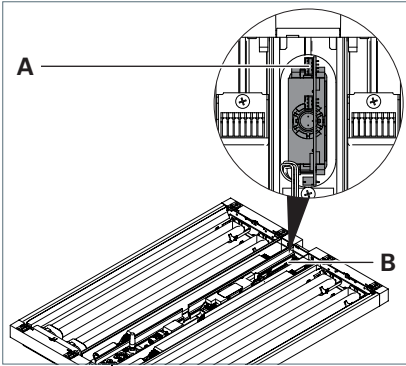

Fig. 9: Interface for luminaires with PIR sensor
- For luminaires with **PIR sensor**: Connect the other end of the connecting line to the interface **A** "R/TxD0" on the PIR sensor **B** in the luminaire head, see Fig. 9.